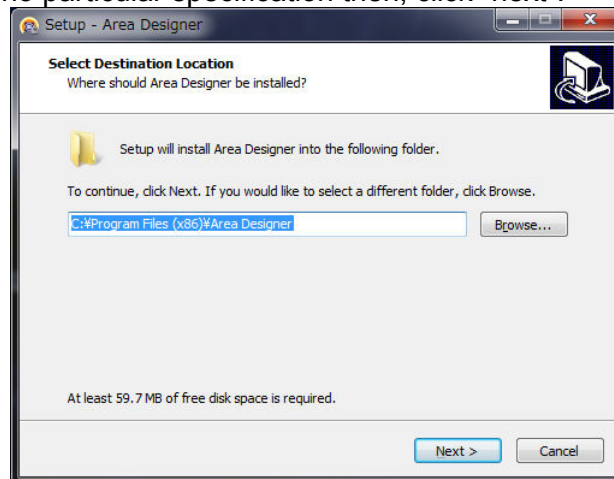

Fig 2-2 Specify the location for an installation
4. As shown in Fig 2.2 click “next”, then select the component of “Area Designer”.